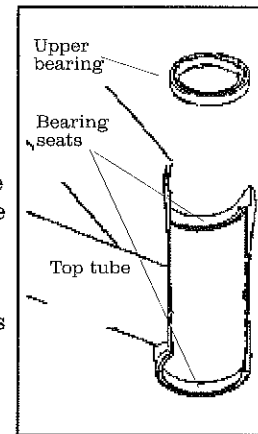

Fig. 24
2. Use a sharp knife to scrape off any residual adhesive from the bearing seat surfaces (Fig. 24).